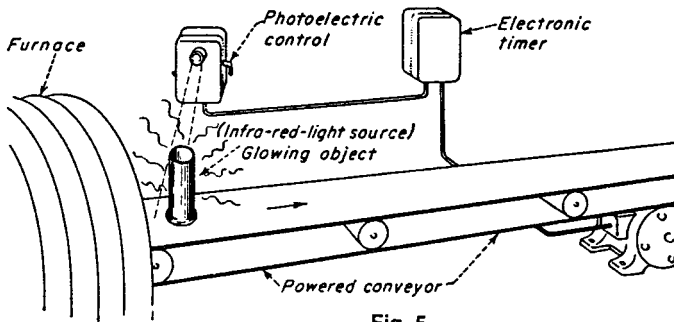

Fig. 5
**Fig. 5** This self-contained regulator is actuated by the expansion or contraction of liquid or gas in a temperature-sensitive bulb that is immersed in the medium being controlled. The signal is transmitted from the bulb to a sealed expansion element which opens or closes the ball valve. Its range is 20 to 270°F, and its accuracy is  $\pm 1^\circ\text{F}$ . The maximum pressure rating is 100 psi for dead-end service and 200 psi for continuous flow.
**Fig. 5** This heat-treating conveyor has an electronic timer paired with a photoelectric control to carry parts emerging from a furnace at 2300°F. The conveyor must operate only when a part is placed on it and only for the distance required to reach the next process stage. Parts are ejected onto the conveyor at varying rates. High temperatures caused failures when the mechanical switches were used. Glowing white-hot parts radiate infrared rays that actuate the photoelectric control as soon as a part comes in view. The control operates the conveyor that carries the parts away from the furnace and simultaneously starts the timer. The conveyor is kept running by a timer for the predetermined length of time required to position the part for the next operation.